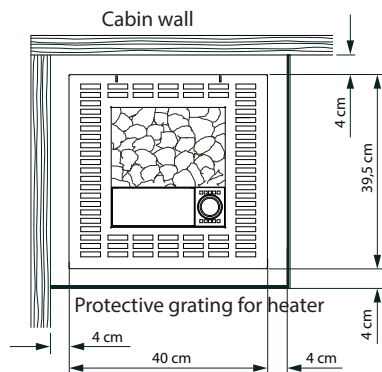

Fig. 2
- When assembling the sauna heater, make sure that the horizontal (side) clearance between the heater and cabin wall is at least 4 cm (fig. 2).